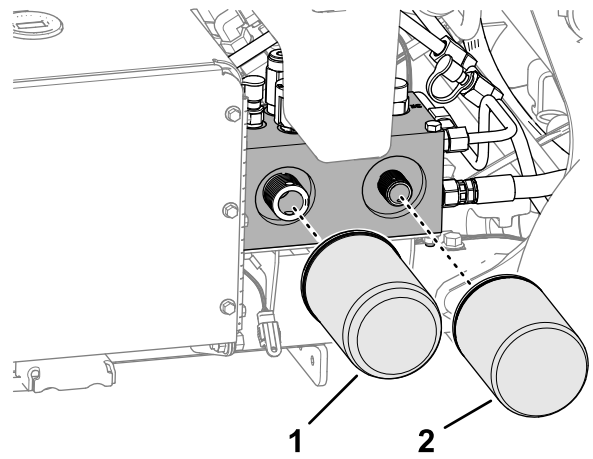

Figure 170
2. Place a drain pan under the filters, remove the old filters, and wipe the filter adapter gasket surface clean (Figure 170).